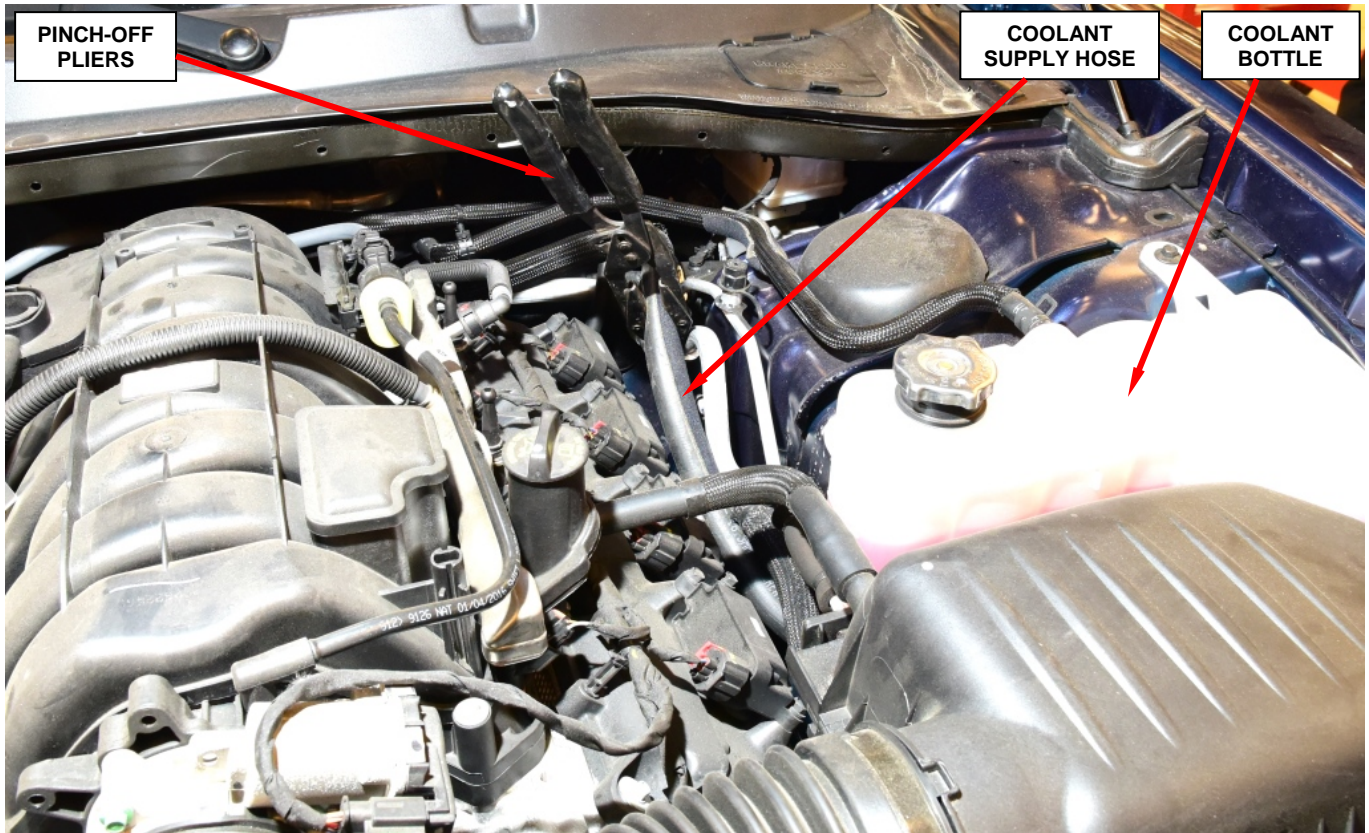

Figure 15 – Pinch-Off Coolant Bottle Coolant Supply Hose
13. Pinch-off the coolant bottle coolant supply hose (Figure 15).